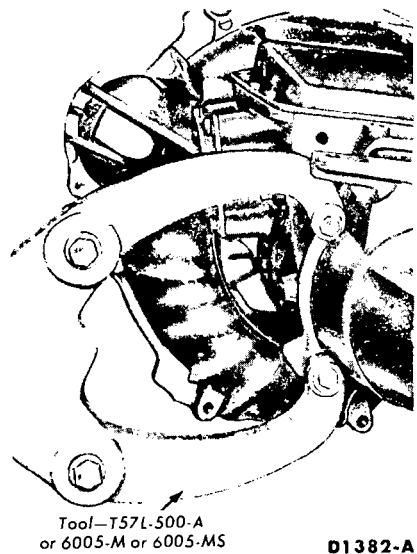

FIG. 37—Transmission Mounted in Holding Fixture
4. Remove the two extension housing-to-case attaching bolts and mount the transmission in the holding fixture as shown in Fig. 37.